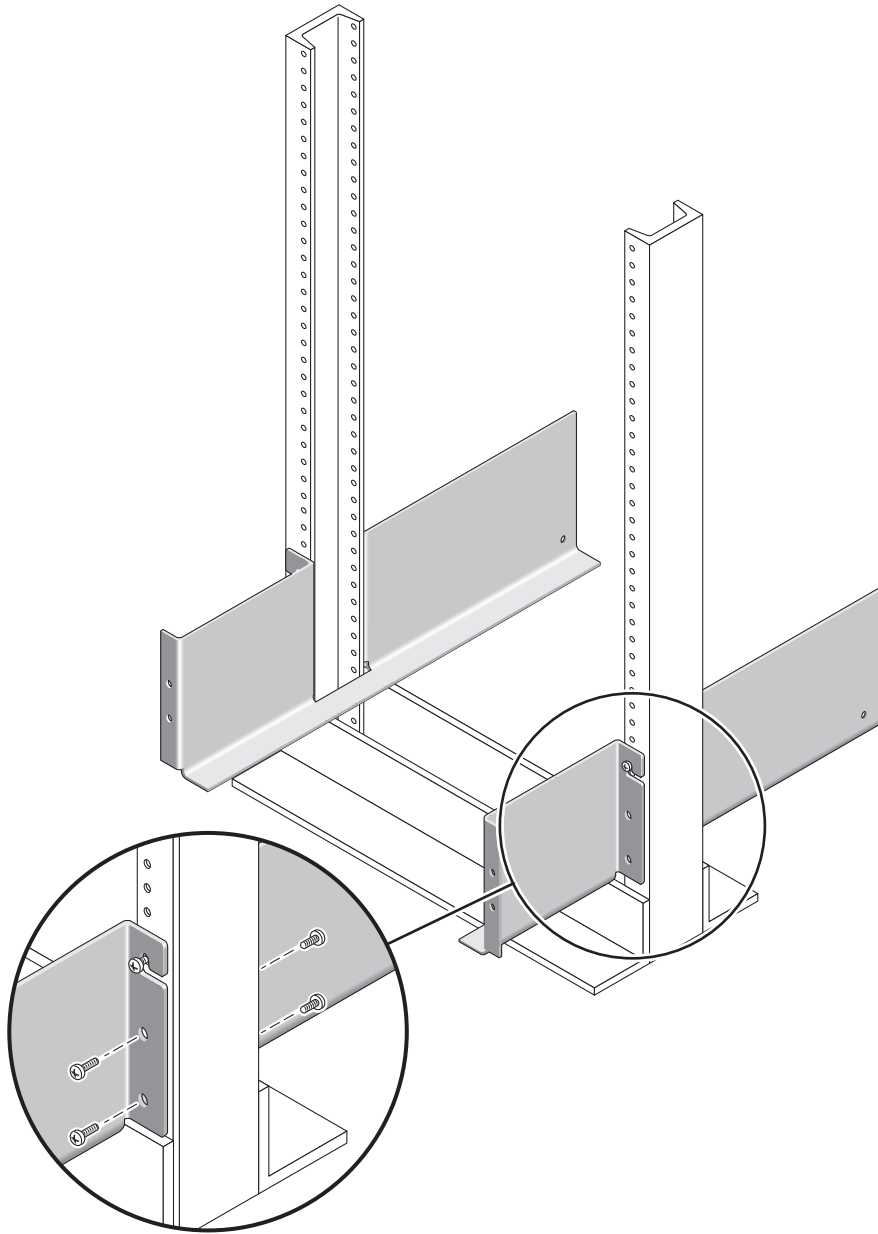

FIGURE 4 Inserting Screws in the Lower Mounting Holes of the Telco 2-Post Rack
3. Insert eight 12-24 screws (four in each post) in the lower mounting holes at the front and back of the left and right rails (FIGURE 4).